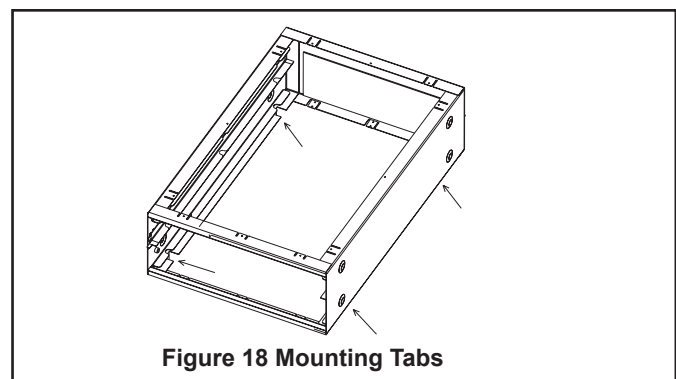

Figure 18 Mounting Tabs
- Bend the 4 mounting tabs down on the two sides of the air cleaner cabinet. These can be used to attach the air cleaner cabinet to the furnace. See Figure 18.